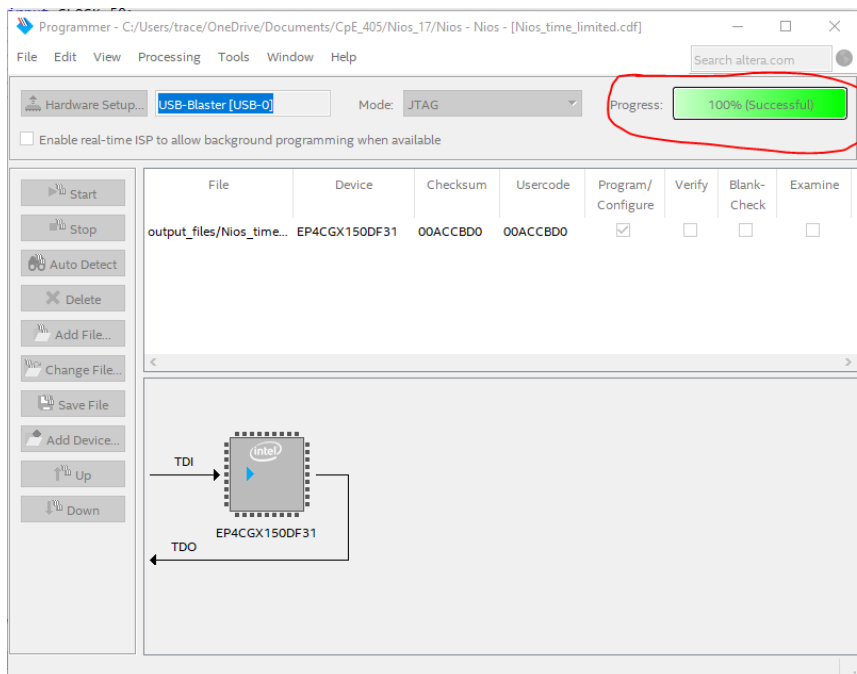

Figure 2-13 FPGA is programmed with Nios System
8.) Once programmed, the progress meter should be at 100% shown in Figure 2-13. The FPGA is now configured with the Nios System. Now we need to write our C program to execute.